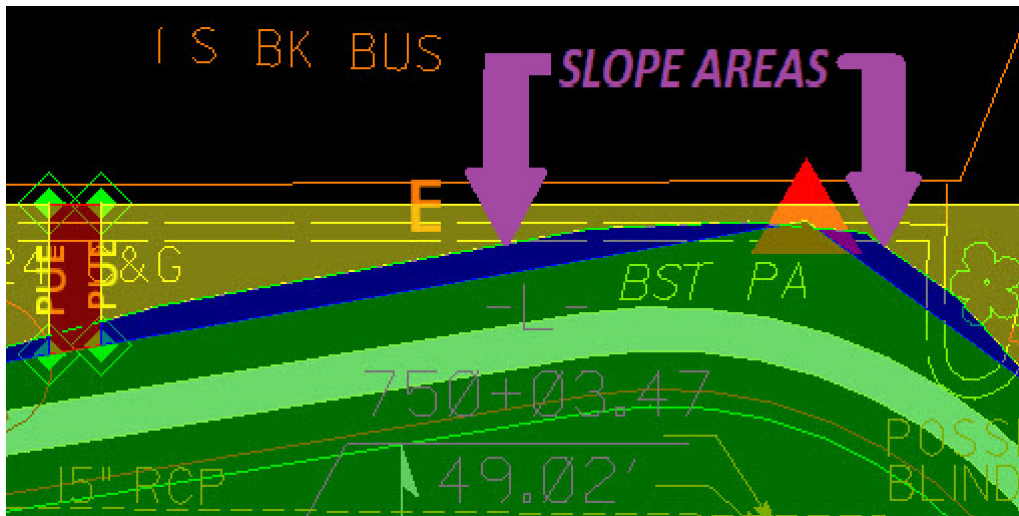

Figure 29 "Slope Area"
Step 6. Next shade in all the TAK areas for the parcel just as you would using the Deed Draft program with the EXCEPTION for the TCE areas. Locate any TCE areas that are showing any SS (slope staking lines) within the TCE area. (SLOPE AREA) shown below (figure 29 below)